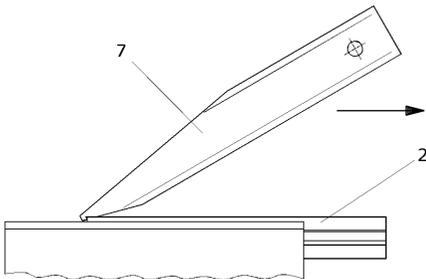

Fig.3
5. Pull-out the knife (2) laterally with the knife changer (see Fig. 3).
4. Pull-out the knife (2) laterally with the knife changer (see Fig. 3).
5. Loosen the set pin (6) -secured with e.g. LOCTITE- and remove it completely from the centrifugal wedge.
7. Loosen the screws (4) with the Torx key and remove it completely from the knife seat.
8. Remove the knife carrier (1) from the knife seat.
9. Loosen the spring-loaded ball screw (5) - secured with e.g. LOCTITE- and remove it completely from the tool body.